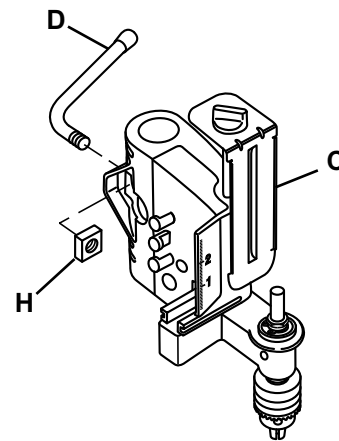

Figure 2
3. Assemble adjustment handle (D) to head assembly (C) with square nut (H). Place square nut in recess in back of head assembly. Insert adjustment handle through head assembly and thread it into square nut three full turns. See Figure 2.